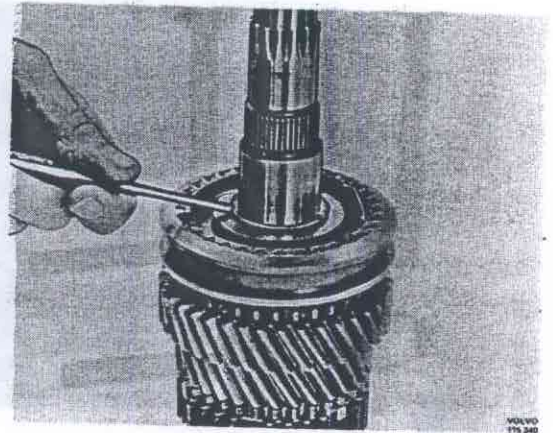

Fig. 43-86. Driving on locking
7. Fit the lock ring which gives minimum clearance. Lock rings are available in sizes 1.8, 1.9 and 1.0 mm (0.072, 0.076 and 0.079"). Check that the lock ring has bottomed properly by driving it down with a drift, Fig. 43-86.